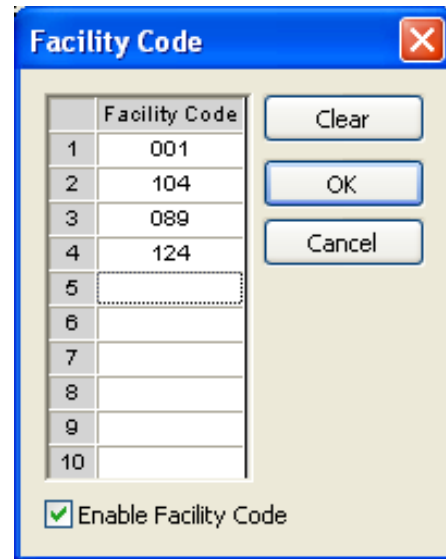

Figure33
1. Click the FACILITY CODE button on the tool bar. The Facility Code window will appear (fig 33).